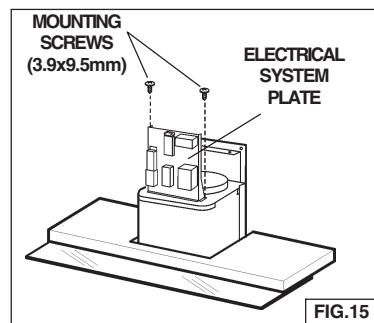

FIG.15
4. Mount the electrical system plate attaching it with (3) 3.9x9.5 mounting screws. Fig.15.